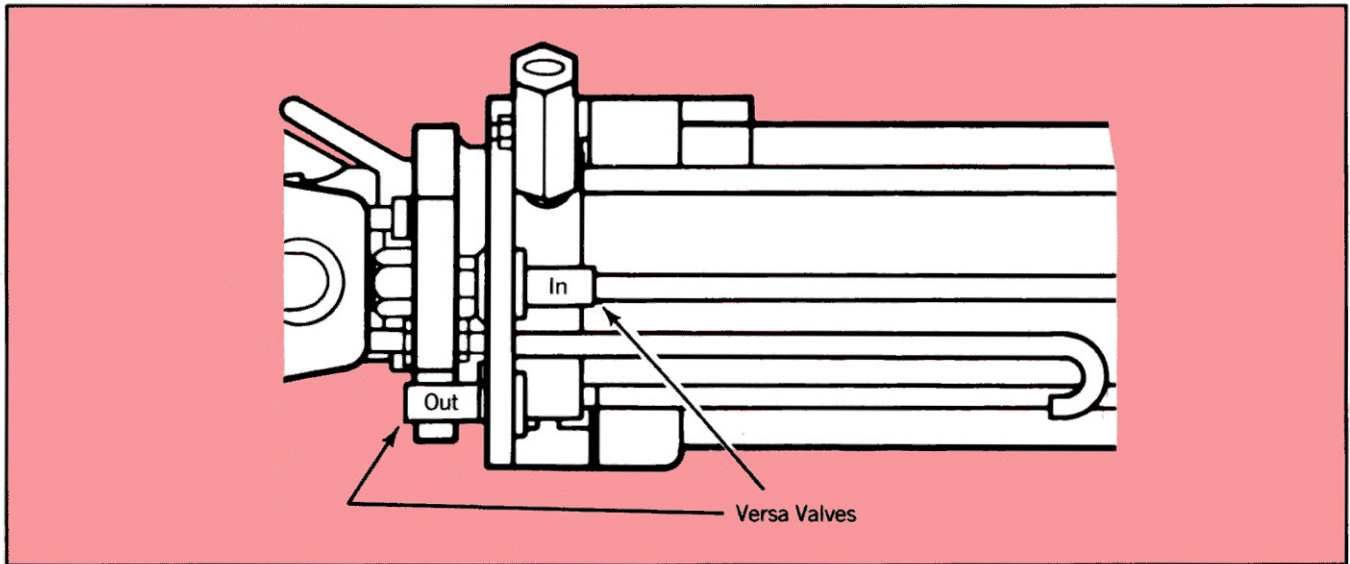

Figure 7 Versa Valves.
1. Relace worn valves or adjust actuating rod to correct position (Figure 7).